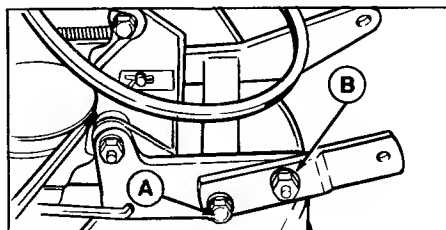

Figure 36. Mower Hitch
6. Loosen the cap screw (A, figure 36) and flange nut (B) in the right mower hitch.
8. Retighten the cap screw and flange nut (B, figure 36). Torque cap screw (A) to 50 ft. lbs. Torque nut (B) to 65 ft. lbs.